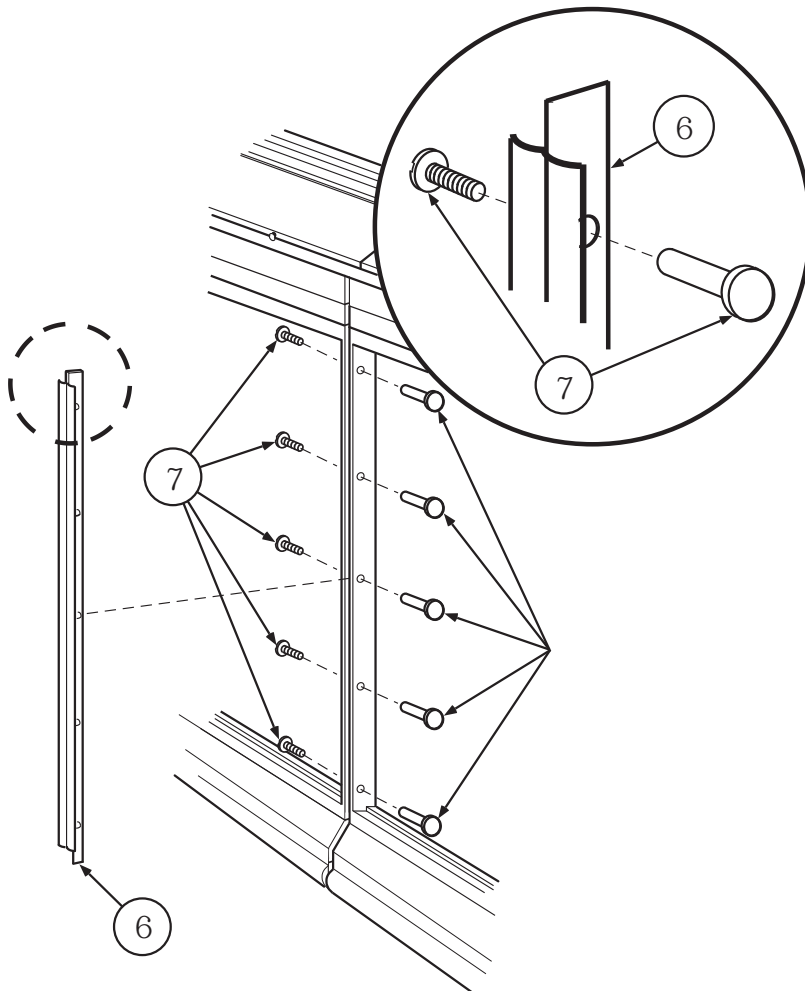

Figure 8. Installing Tee Molding
- 9** Align holes in frame with holes in Tee Molding—6. Fasten cases together using Binder Post and Screws—7 as shown in Figure 8.